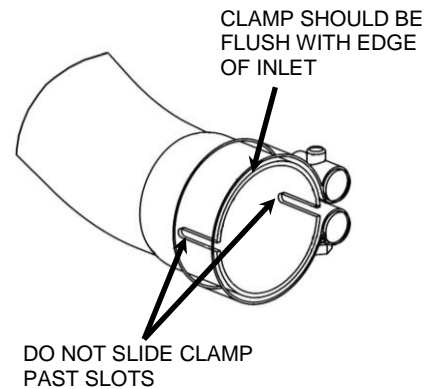

FIGURE 6
21. Slide the left rear headpipe inlet (with clamp) over the left front headpipe outlet. Make sure the left rear headpipe inlet goes onto the left front headpipe outlet as far as possible. Align the clamp with the hex head facing down and forward at a 45 degree angle as shown in **FIGURE 5**. (NOTE: The clamp should be flush with the end of the left rear headpipe inlet when tightened. See **FIGURE 6**. If the clamp is slid past the slots on the headpipe inlet the clamp will not tighten properly). Also, check to make sure the shift linkage does not interfere with the clamp. Snug the clamp but **DO NOT TIGHTEN** at this time.